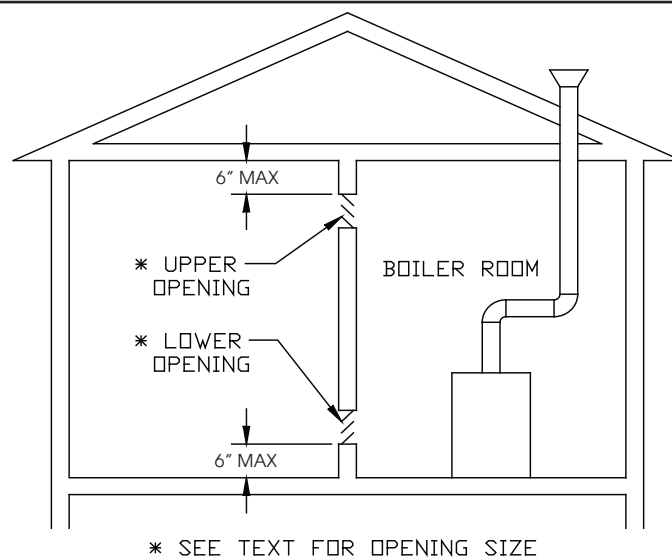

Figure 5.1: Indoor Combustion Air Method
- 4) If the result is at least 50 ft³ per 1000BTU/hr, and none of the conditions described in (6) below are met, normal infiltration should provide adequate fresh air into the boiler room.
- 5) If the result is less than 50 ft³ per 1000BTU/hr, provide two openings into the boiler room, one near the floor and one near the ceiling. The top edge of the upper opening must be within 6" of the ceiling and the bottom edge of the lower opening must be within 6" of the floor (Figure 5.1):
Although combustion air is supplied through the air intake piping, ventilation air is still required around the boiler to prevent overheating of boiler components. If the boiler is installed in a closet, provide two openings in the closet, each having a net free area of 100 square inches as shown in Figure 5.1. Note that these openings are independent of the boiler size. Additional area may be required if other fuel burning appliances are installed in this closet.